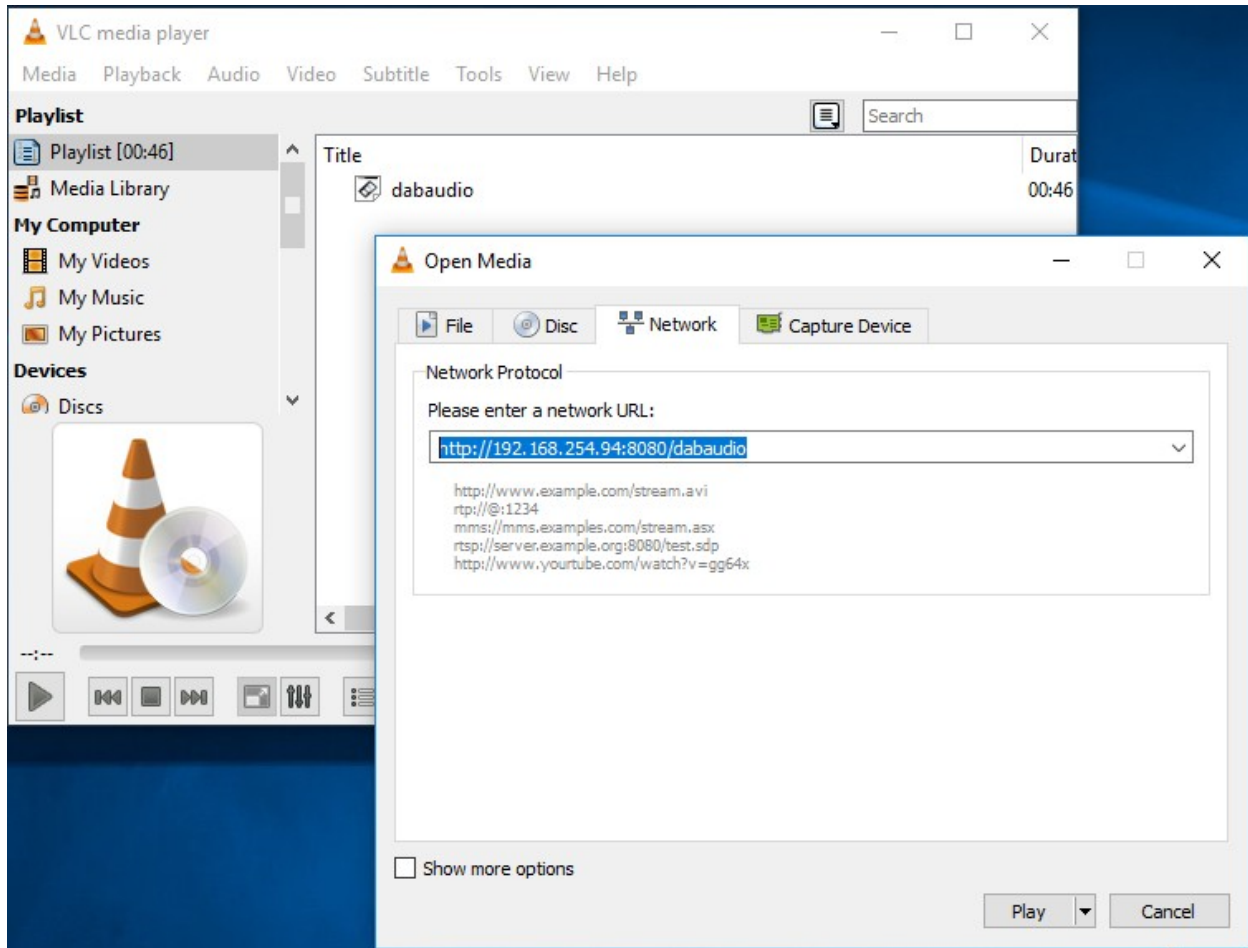

Figure 41. VLC Open Media Dialog
3. Enter connection URL - the unit IP address followed by 8080 port number and /dabaudio in to Open Media dialog form (Figure 41).